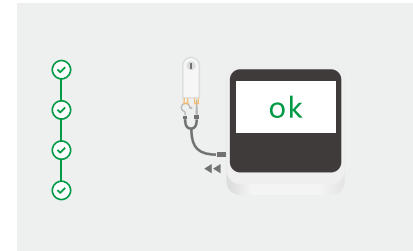
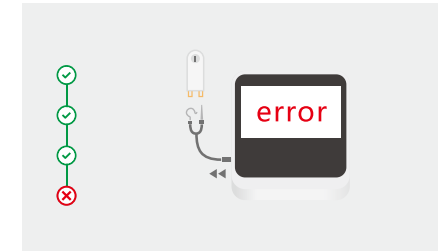

Fig. 36 Accessories are OK
Fig.37 Accessories are ERROR
- Press the MODE key for a few seconds (A) to enter setup state;
- Press SET key to select calibration (B);
- The screen will be prompted to insert the motor handpiece (Fig.37);
- Cables CHECK will start automatically and the results – either OK (Fig. 36) or ERROR (Fig. 37) - will be shown on the screen.